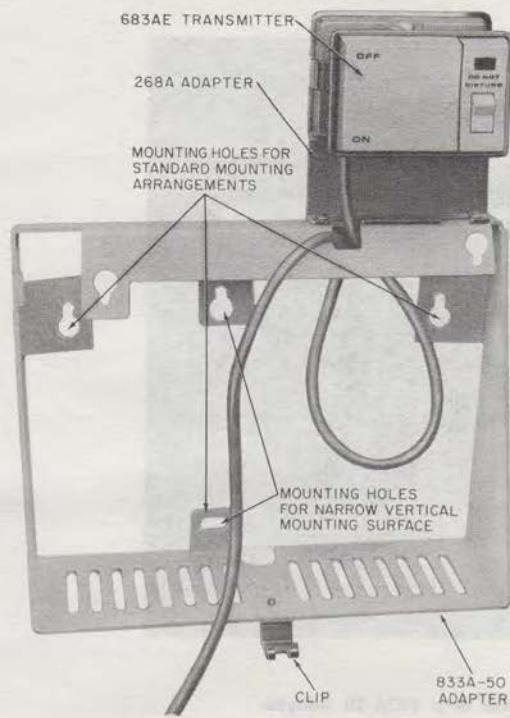
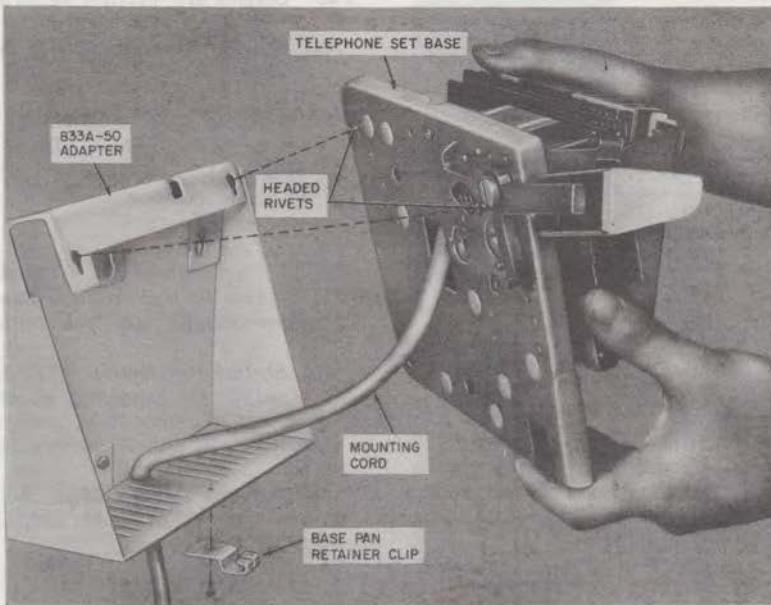

Fig. 3—833A-50 Adapter with 268A Adapter and 683AE Transmitter
Fig. 4—Mounting Telephone Set Base onto 833A-50 Adapter
3.02 All DM and EM (wall type) sets are shipped with an 833A-50 adapter, screw, and clip (Fig. 3) which are used for mounting the telephone set to a vertical surface. Install the 833A-50 adapter and telephone set as follows.
- (1) Mount the adapter to the wall or vertical surface as shown in Fig. 3, using appropriate fasteners (Section 080-720-105). If the mounting cord is to be dressed down the wall, it is necessary to pass the cord through the notch in the adapter before final attachment of the adapter to the wall (Fig. 4). If the cabling enters through the wall, the mounting cord may be contained within the adapter.
- (2) Remove faceplate and housing from telephone set.
- (3) Hang the telephone set on the adapter from the headed rivets that protrude from the base pan (Fig. 4).
- (4) Secure the telephone set base with the clip, and screw at the bottom of the adapter (Fig. 3).
- (5) Install telephone set options (see paragraph 3.05).
- (6) Replace housing and faceplate.
- (1) If feature is to be added to DM- or EM-type set, a 268A adapter must be used as follows:
- (a) Mount 268A adapter onto 833A-50 adapter with two screws as shown in Fig. 3
manual DO-NOT-DISTURB switch. Depression of the switch (Fig. 3) prevents voice signaling, alerting tone, and activation of the microphone. A distinctive tone is sent to any station that is calling another station on **dial intercom** when the called station does not want to be disturbed. The only signal that can be received by a station or answering position with the DO-NOT-DISTURB switch activated are tone ringing and the alerting tone and one way voice signaling associated with an **automatic signaling intercom**.